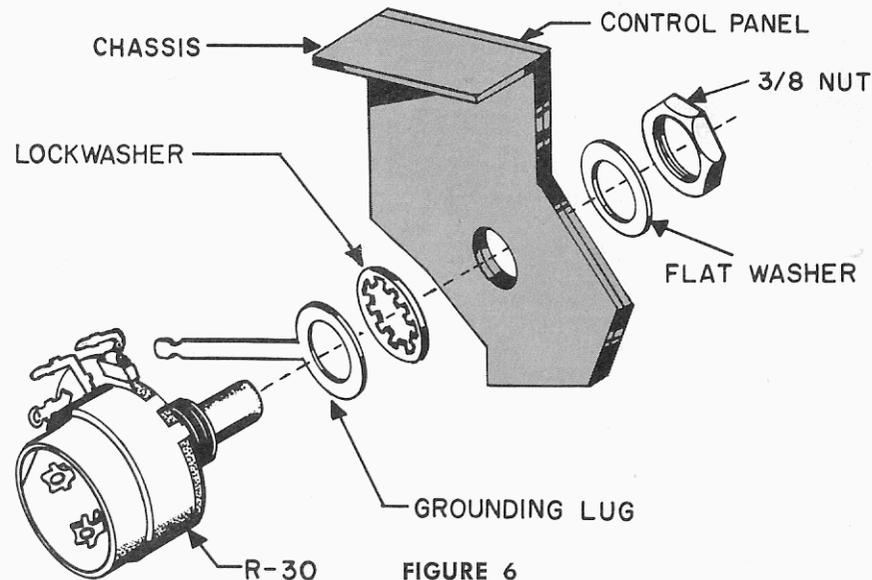

FIGURE 6
- ☑ R-30 control with switch attached, and long grounding lug. See Figure 6. Place the grounding lug and  $\frac{3}{8}$ " lockwasher over the control shaft. Mount the control as shown and fasten with a  $\frac{3}{8}$ " flat metal washer and nut.